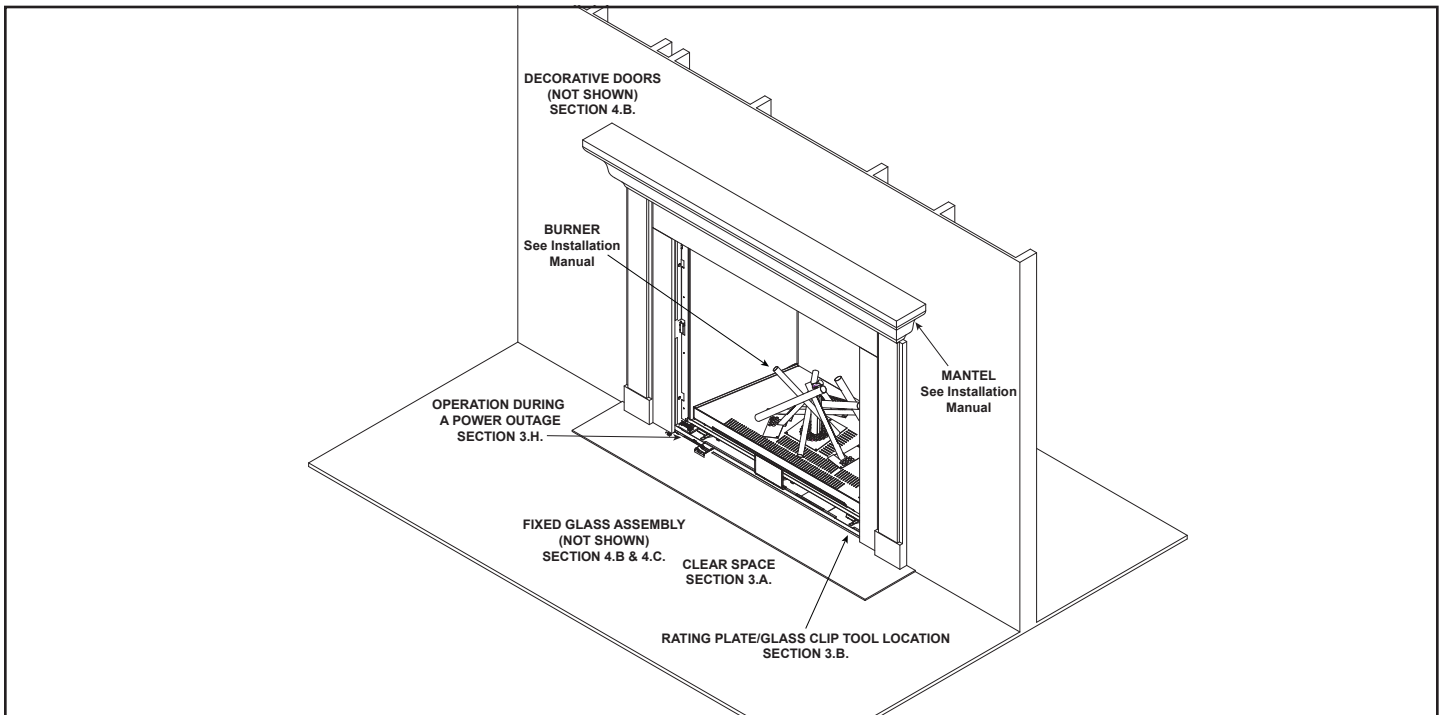

Figure 3.2 General Operating Parts
Figure 3.2 references the general operating parts of the appliance and the section of this manual in which they are discussed.
1. Access the factory-installed battery pack located in the lower left corner of the appliance adjacent to the control module. See Figure 3.2 for location. The decorative front may need to be removed.